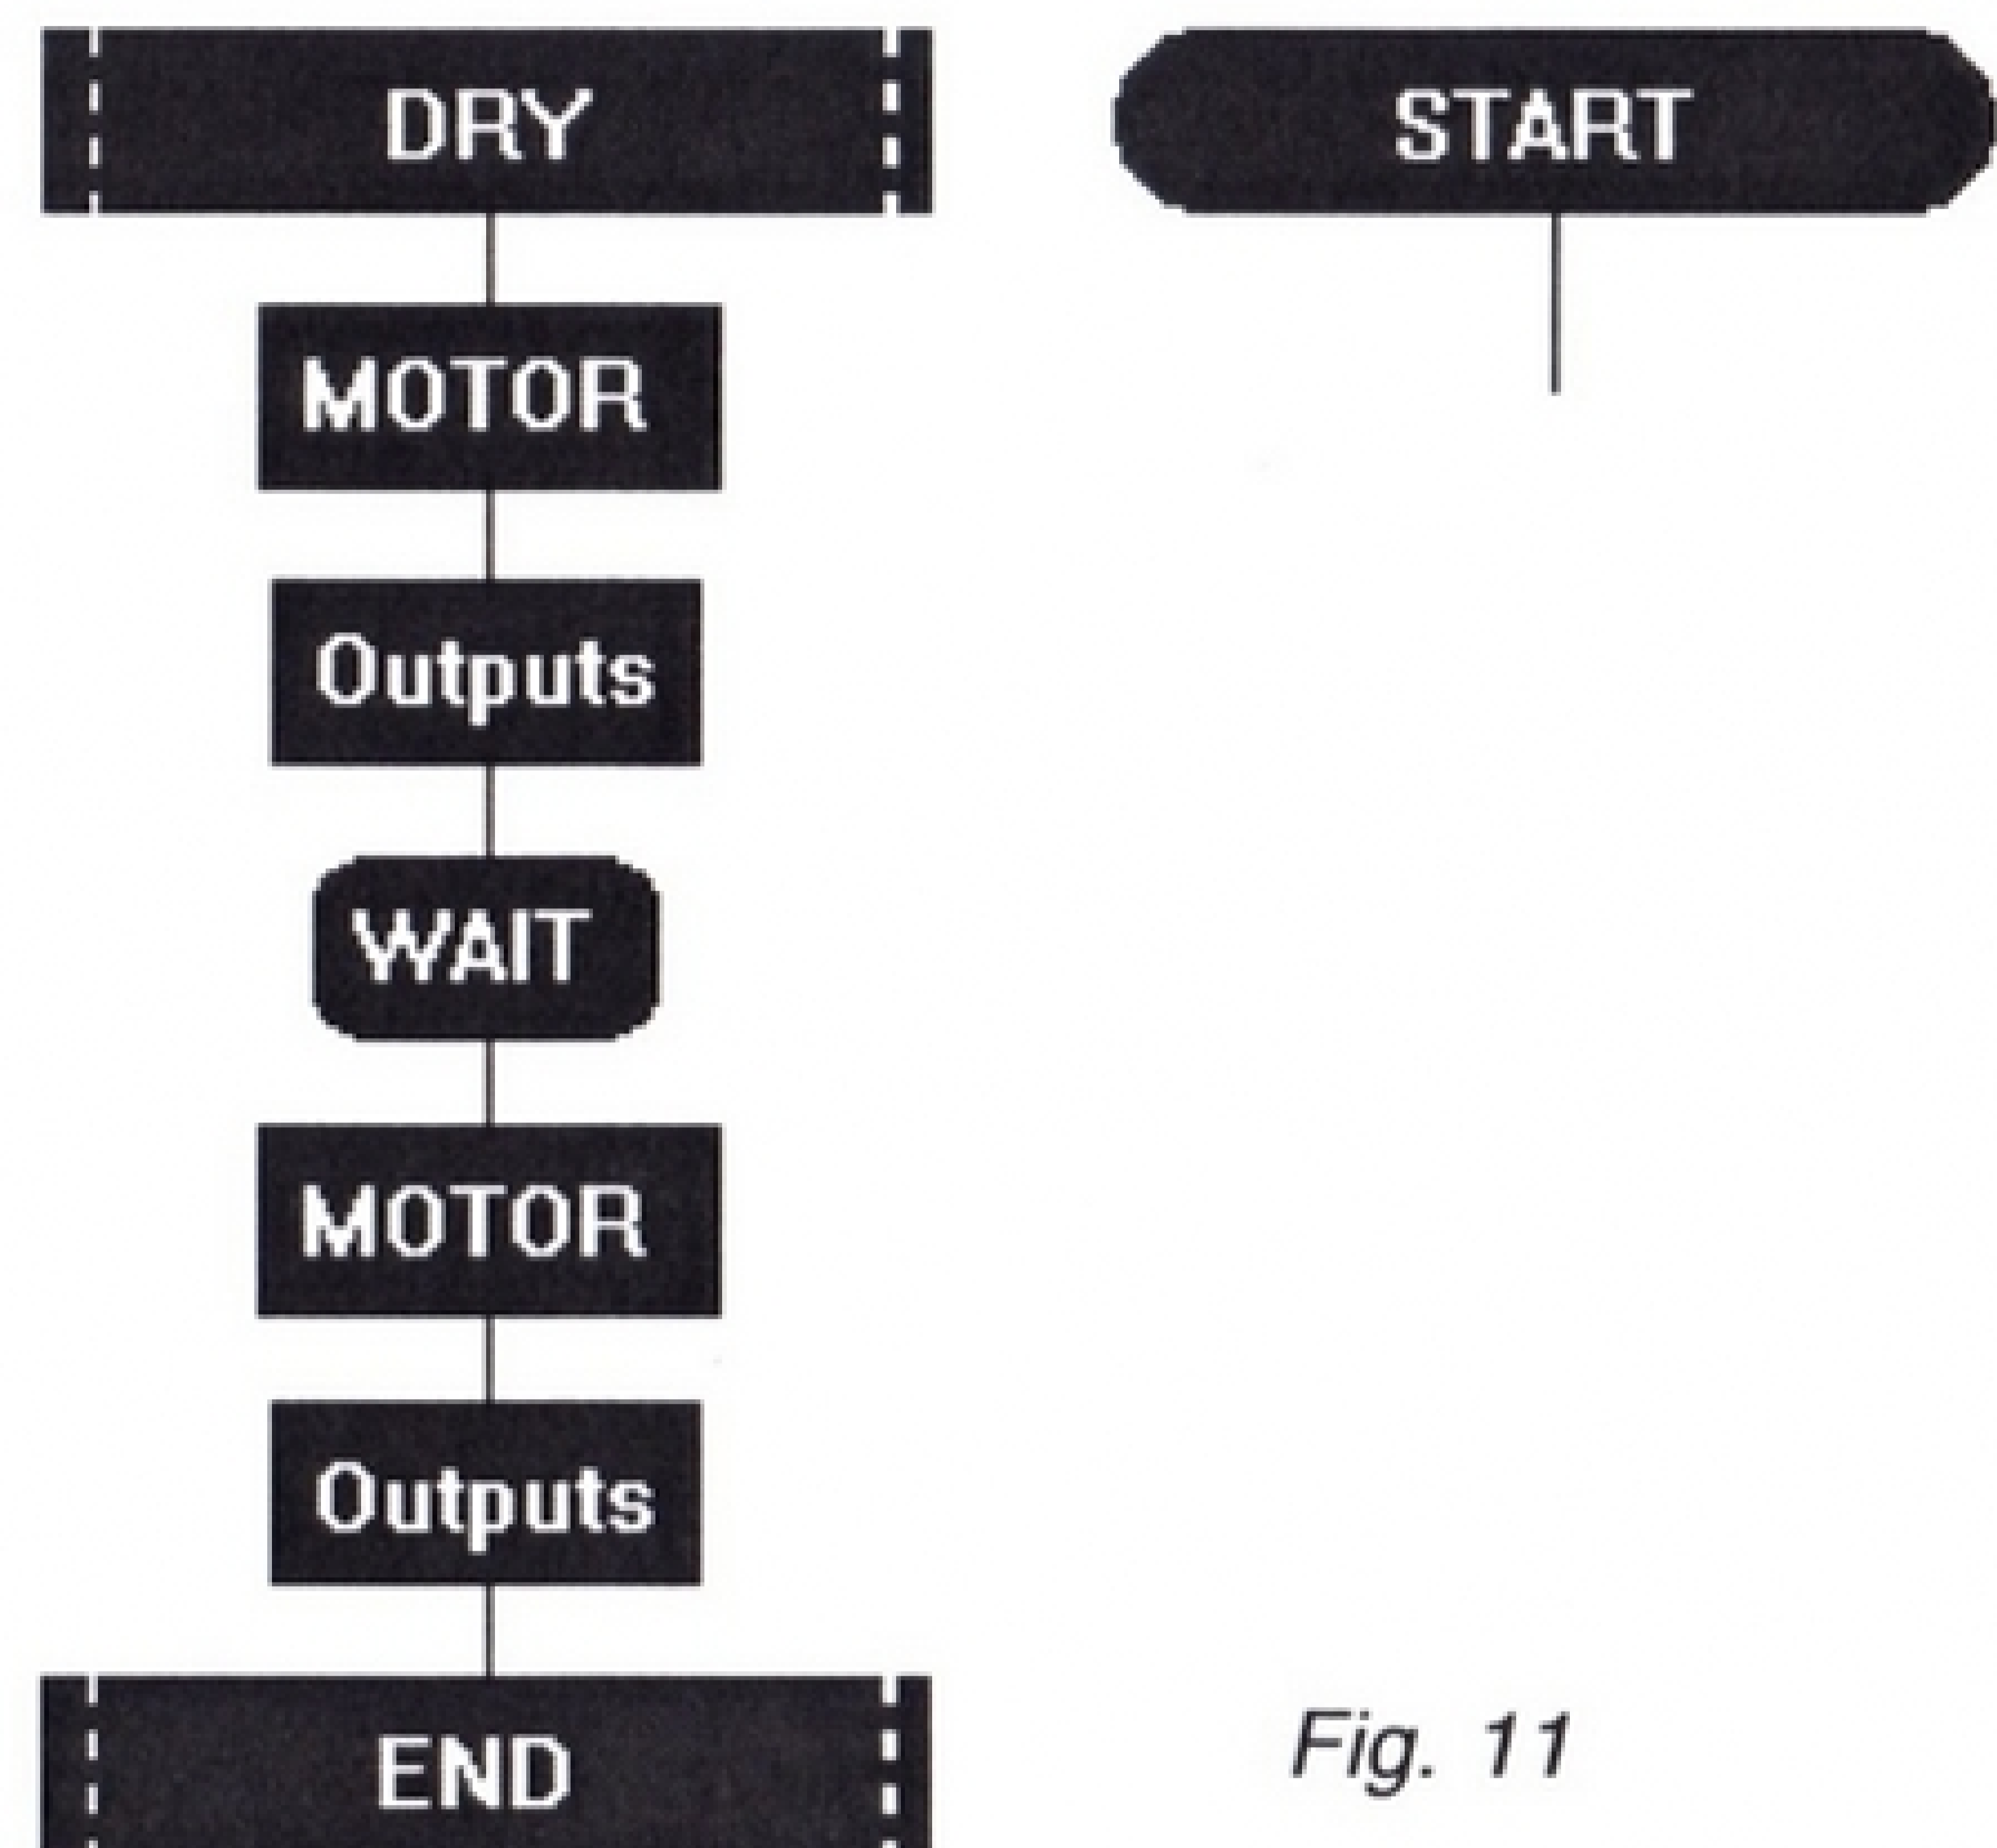

Fig. 11
1. The flowsheet shown in fig. 11 contains the macro for operating the dryer. Notice that it is separate from the main routine that will begin with the START command.